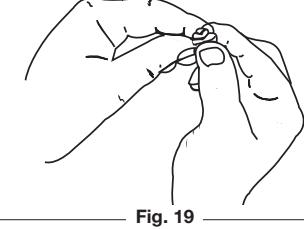

Fig. 19
5. Squeeze the filter to spread and remove excess oil (Fig. 19).
The idle speed of the engine is adjustable. An idle adjustment screw is between the air filter cover and the engine starter housing (Fig. 19).